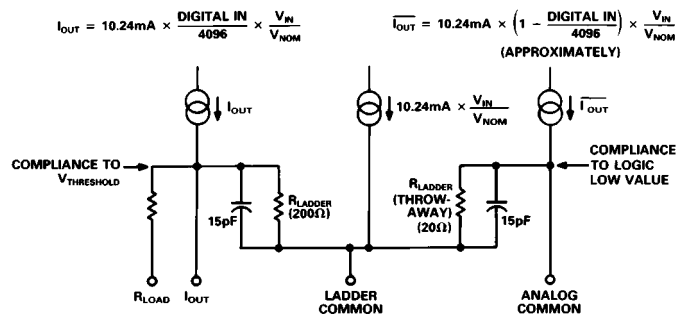

Figure 4. Equivalent Output Circuit
1Measured in  $I_{\text{OUT}}$  mode. Specified at nominal 5 V full-scale reference.2Measured in  $V_{\text{OUT}}$  mode, unless otherwise specified. Specified at nominal 5 V full-scale reference.3Total resistance. Refer to Figure 4.4At the major carry, driven by HCMOS logic.5 $V_{\text{OUT}} = 1 \text{ V p-p}$ ,  $V_{\text{IN}} = 10\%$  to  $110\%$ , 100 kHz. Digital Input All 1s.6 $V_{\text{IN}} = 200 \text{ mV p-p}$ , 1 MHz Sine Wave. Digital Input all 0s. See Figure 20.7Measured at  $15 \text{ V} \pm 10\%$  and  $12 \text{ V} \pm 10\%$ .Specifications shown in **boldface** are tested on all production units at final electrical test.
The AD668 has an output compliance range of  $-2.0$  V to  $+1.2$  V (with respect to the LCOM pin). The current steering output stages will be unaffected by changes in the output terminal voltage over this range. However, as shown in Figure 4, there is an equivalent output impedance of  $200 \Omega$  in parallel with  $15$  pF at the output terminal, producing an equivalent error current if the voltage deviates from the ladder common. This is a linear effect which does not change with input code. Operation beyond the maximum compliance limits may cause either output stage saturation or breakdown, resulting in non-linear performance. The positive compliance limit is not affected by the positive power supply, but is a function of the output current and the logic threshold voltage at  $V_{TH3}$  Pin 13.
The internal wiring and pinout of the AD668 are dictated in large part by current management constraints. When using low impedance, high current, high accuracy parts such as the AD668, great care must be taken in the routing of not only signal lines, but ground and supply lines as well. The following accounting provides a detailed description of the magnitudes and signal dependencies of the currents associated with each of the part's pins. These descriptions are consistent with the functional block diagram as well as the equivalent circuits provided in Figures 4, 5, and 6.
**IOUT** – the output current. In the current output mode with this node tied to a virtual ground, a 10.24 mA nominal full scale output current will flow from this pin. In the voltage output mode, with  $R_L$  grounded, half of the output current will flow out of  $R_L$  and the other half will flow out of LCOM. External resistive loading will cause current to be divided between LCOM,  $R_L$ , and  $I_{OUT}$  as Figure 4 suggests.
**ACOM** – as indicated in Figure 4, the current flowing out of this pin is effectively the complement of IOUT, varying with both analog and digital inputs. Using this current as a signal output is not generally advised, since it is untrimmed and its positive output compliance is limited to the logic low voltage.